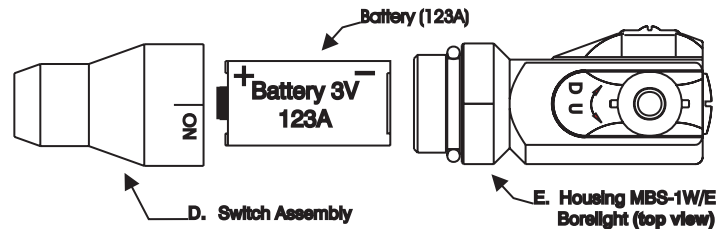

FIGURE 2-1
2. Install the single 123A lithium battery in the direction shown on the housing. **Note: The negative terminal is inserted into the Laser Housing with the positive terminal facing the Switch Assembly. See Figure 2-1 below.**